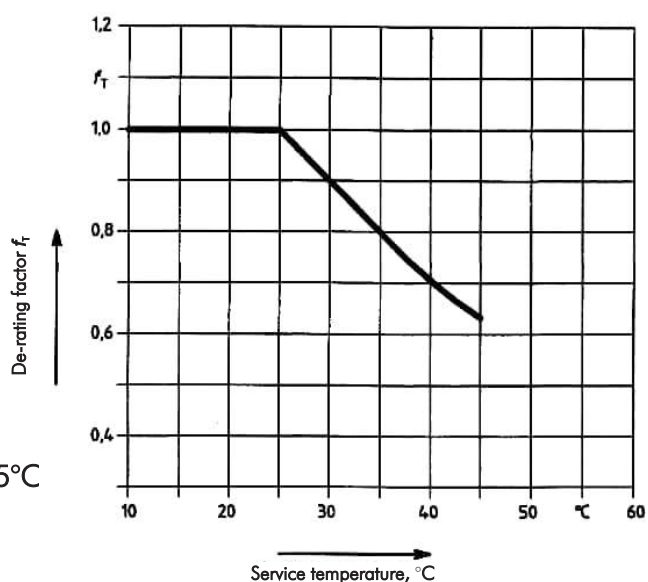

Figure A.1
- Pressure testing shall not be carried out in extremely hot weather conditions, if it is unavoidable then pressure de-rating factor shall be applied (see figure A.1).
The derating factor f_T for service temperatures up to 45°C shall be taken from figure A.1. The de-rating factor is based on long term experience and test results.
From Figure A.1 the de-rating factor at 40°C is 0.71. Therefore the maximum allowable operating pressure at 40°C in continuous use is; $0.71 \times 9 \text{ bar} = 6.39 \text{ bar}$.